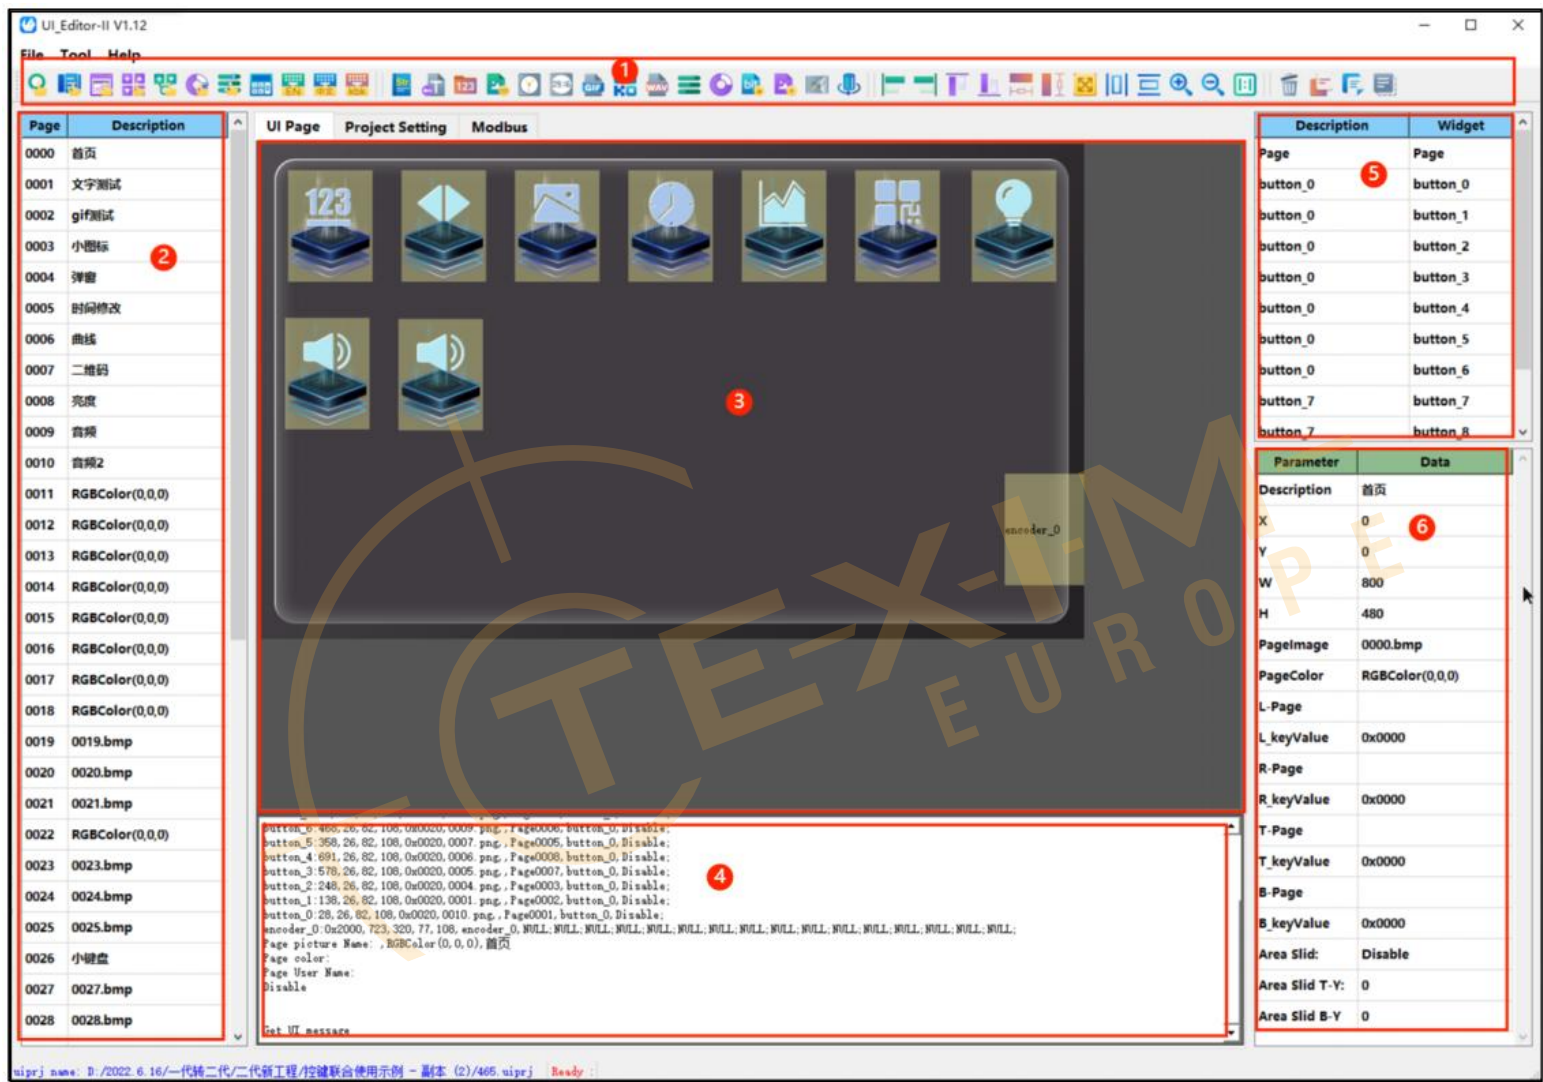

Figure 2-24: Main Screen
As shown in Figure 2-24, ❶, developers may click on the icons to add various widgets, such as button, picture, text, and more. Hover the mouse cursor on an icon, the name of the icon will pop-up. Left click on an icon, the mouse cursor will then be switched to Cross style. Developers may then start to add the designated widget to the editing area, and drag it to adjust its width and height. Widgets may be added continuously as long as the mouse cursor remains Cross style. Right click the mouse on the editing area to exit the selection mode, and the mouse cursor will be switched back to Arrow style.
As shown in Figure 2-24, ❷, the left column represents Page ID (unchangeable), and the right column represents the name of the page (user definable)
As shown in Figure 2-24, ❸, developers may edit (e.g. adding widgets) within the basemap.
As shown in Figure 2-24, ❹, every operation process will be listed here in a timely manner. Developers may check the process results in the status window when making bin files.
As shown in Figure 2-24, ❺, this area lists all the available widgets in the designated page. Click the listed name to quickly locate the desired widget in the page editing window
As shown in Figure 2-24, ❻, parameters for selected widget can be setup here, including but not limited to name, address, and coordinates etc.